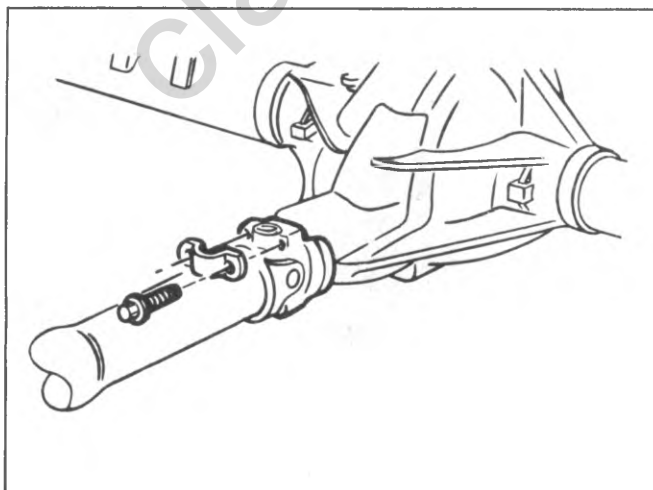

Fig. 4A-6--Strap Attachment
installation, instead of an arbor press. In this case, proceed with disassembly and assembly procedure as with an arbor press Fig. 4A-8 and 4A-9.
3. Using a suitable socket or rod, press on trunnion until bearing cup is almost out. Grasp cup in vise and work cup out of yoke. See figures 4A-8 and 4A-9.